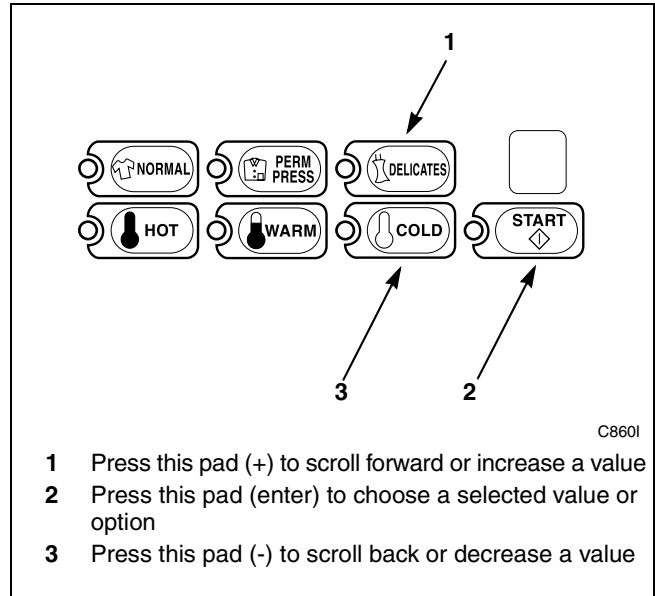

Figure 179
6. Press the DELICATES (+) or the COLD (-) keypad to increase or decrease the current number until correct. Refer to *Figure 179*.